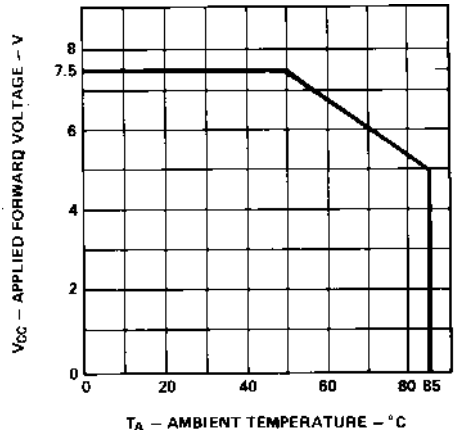

Figure 3. Maximum Allowed Applied Forward Voltage vs. Ambient Temperature $R\theta_{JA} = 175^{\circ}\text{C}/\text{W}$. 5 Volt Devices.
2. Derate from T_A = 50°C at 0.071 V/°C, see Figure 3.